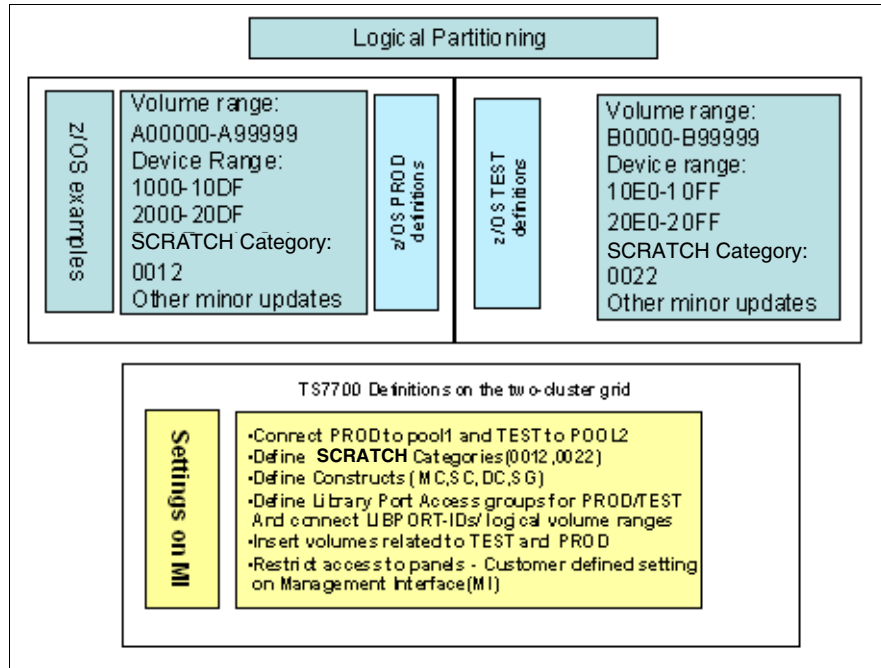

Figure I-3 Management Interface updates for logical partitioning of TEST and PROD
Updates and definitions that are needed on the windows of the Management Interface (MI) are covered in this section. The definitions must match the definitions on the z/OS hosts to make it work. Make updates in the areas that are shown in Figure I-3.